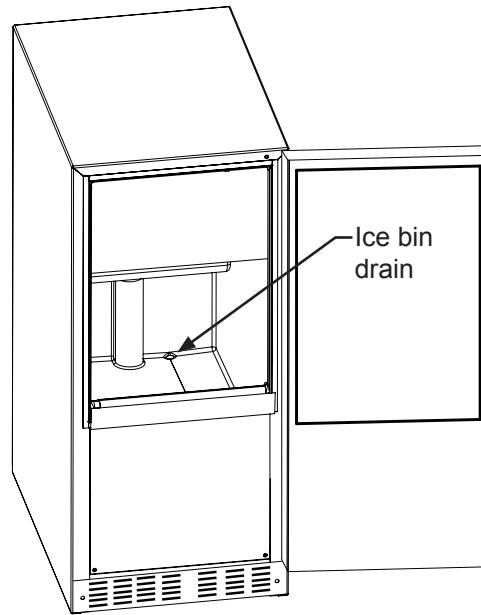
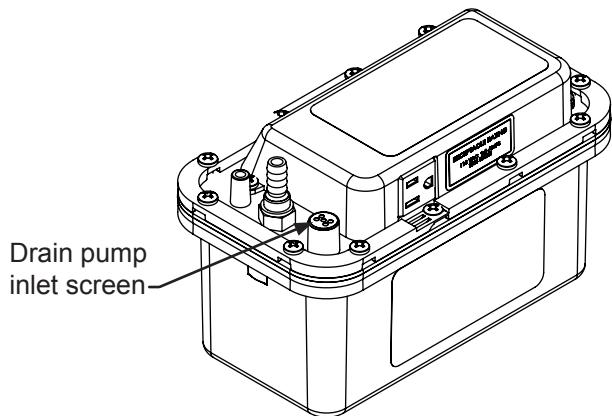

Figure 12
Figure 13
- Check that the ice bin drain inside the cabinet is open and free of foreign material which would block water flow to the drain pump, see Figure 12.
- Check that the inlet tubing from the ice machine drain valve to the drain pump is open and free of foreign material. Inspect the screen at the top of the inlet tube to ensure there is nothing blocking the water flow to the pump, see Figure 13.
- Check the ice bin drain (see Figure 12) and the drain pump inlet screen (see Figure 13) for debris and clean as needed.